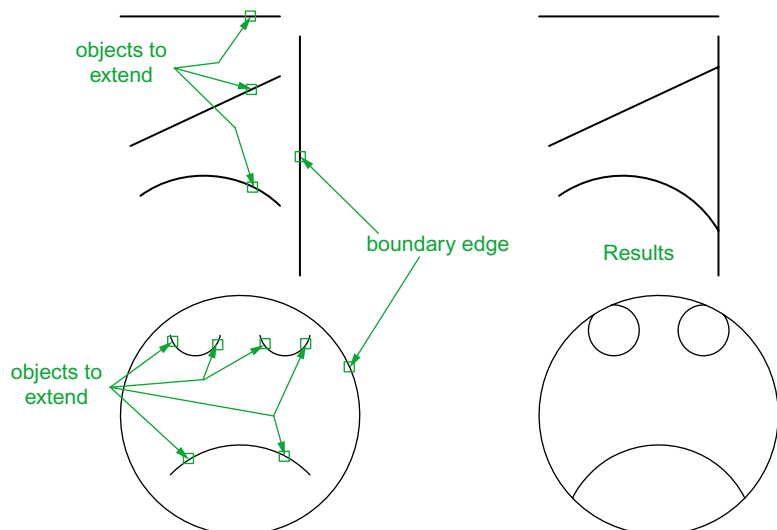

Fig. 5.40 Examples – **Extend**
Examples – Extend (Fig. 5.40)
1. Construct plines and a circle as shown in the left-hand drawings of Fig. 5.40.
The results are shown in Fig. 5.40.